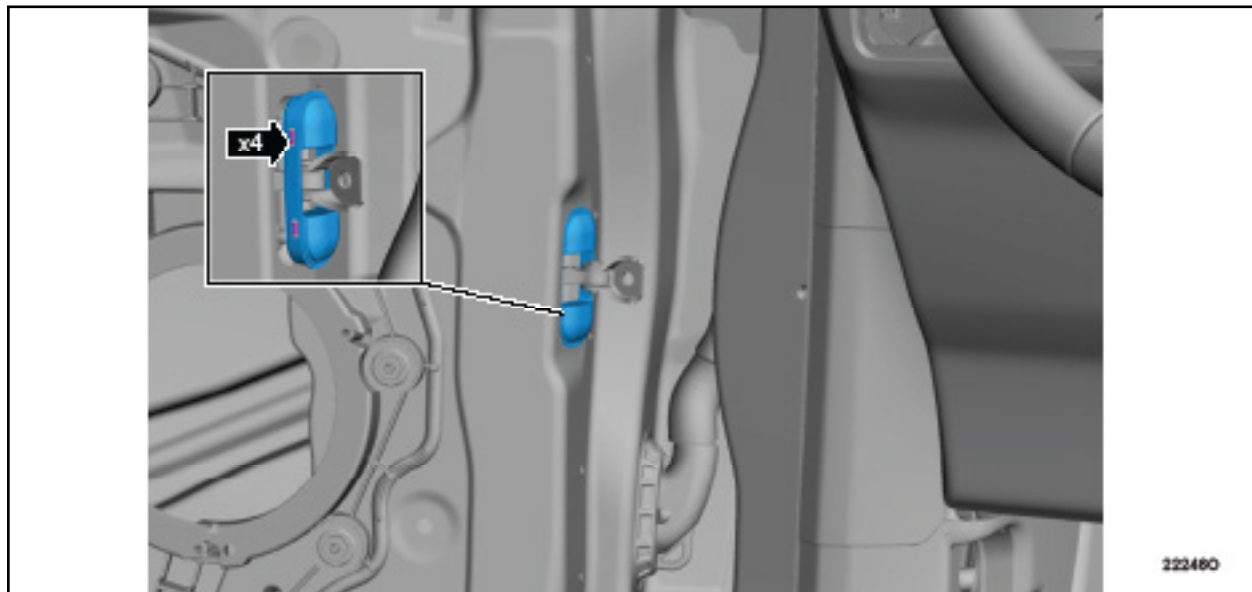

**FIGURE 21**
21. Tighten the upper rivet. See Figure 21.